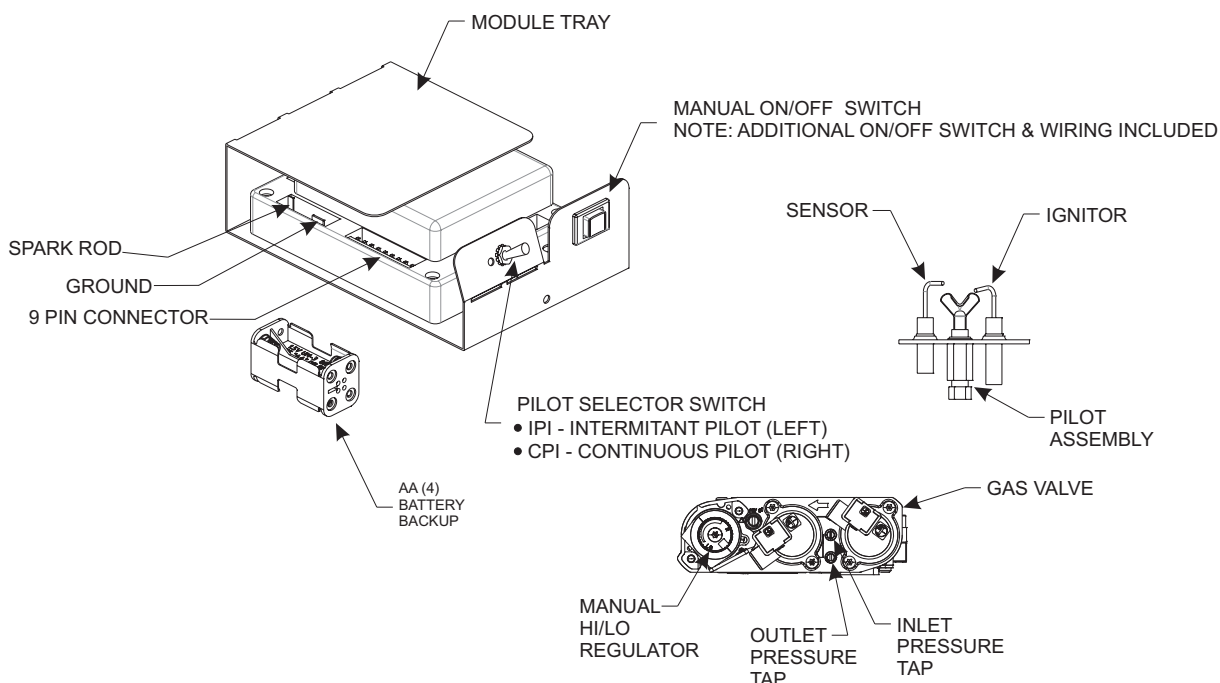

Figure 78
See Figure 78.
3. The gas valve has inlet and outlet pressure taps as shown in Figure 78. Refer to pages 8 and 17 for gas pressure requirements.
**NOTICE:** The gas control has a manual HI/LO flame adjustment knob (regulator) that allows you to increase or decrease the height of the burner flame. See Figure 78. Rotate the HI/LO knob counterclockwise to "HI" to increase the flame height, and clockwise to "LO" to decrease the flame height.
To connect the remote receiver to the appliance, first disconnect the ON/OFF switch wires from the white and green wire connectors and connect the wires from the remote receiver to the green and white wire connectors. See Figure 78.